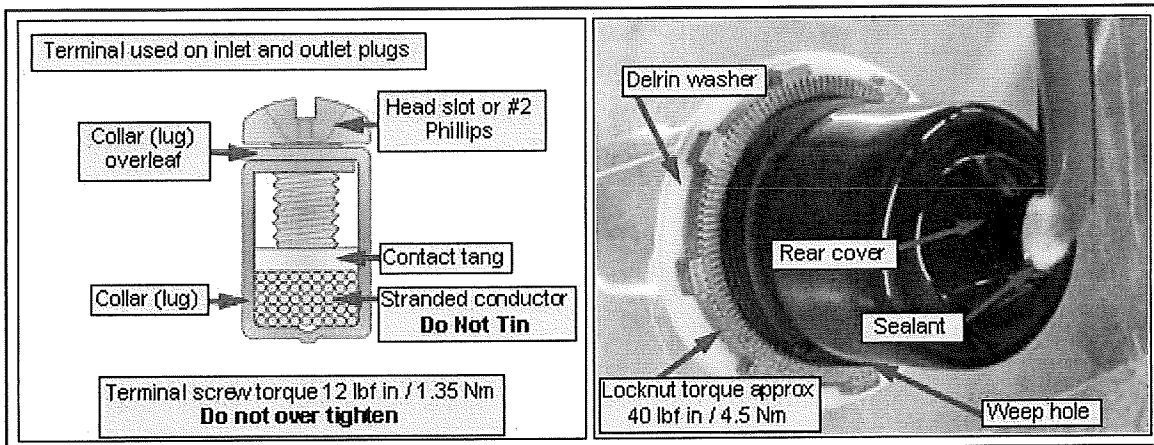

Figure 2 – Terminal lug detail and rear view of installation. Mount weep hole down, Delrin washer between locknut and panel, rear protective cover sealed.
6. Slide rear protective cover in place over the plug body and seal rear cover at cable transition with TU02788 sealant or equivalent (Figure 2).